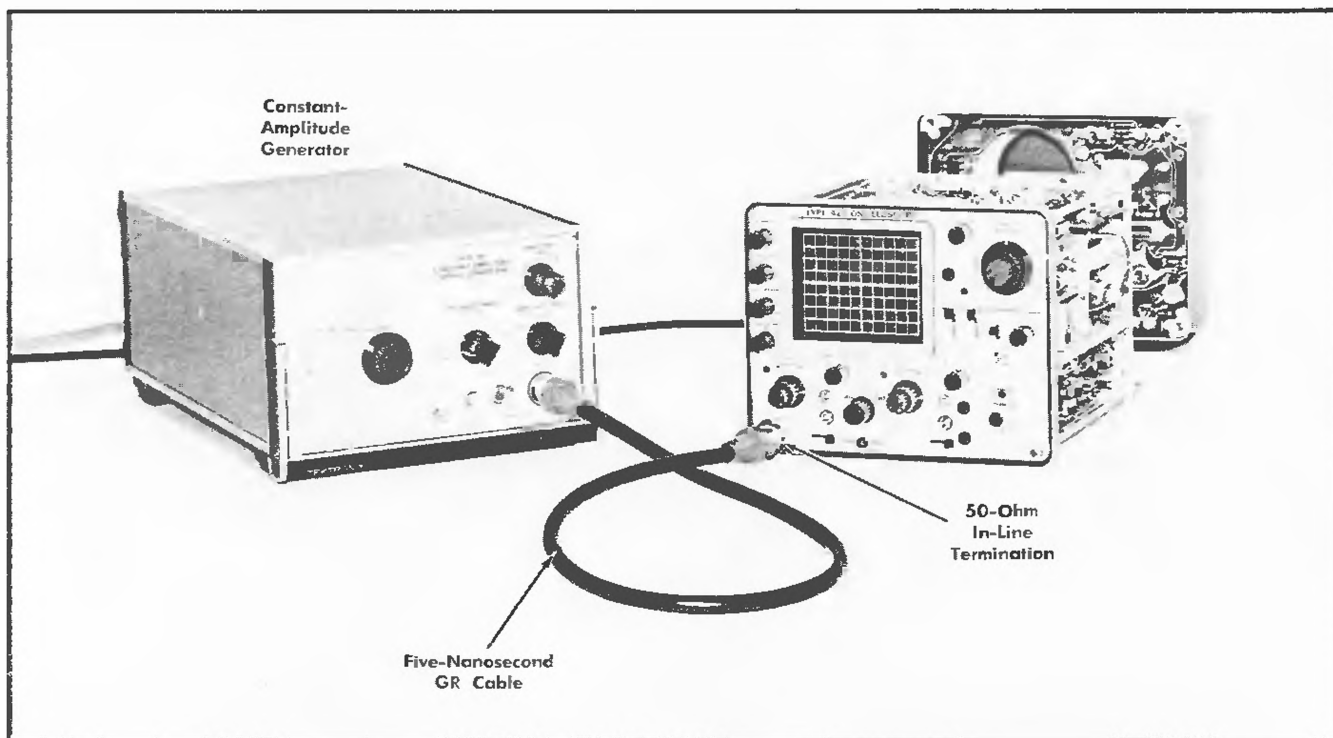

Fig. 6-25. Initial test equipment setup for steps 23–25.
a. Test equipment setup is shown in Fig. 6-25.